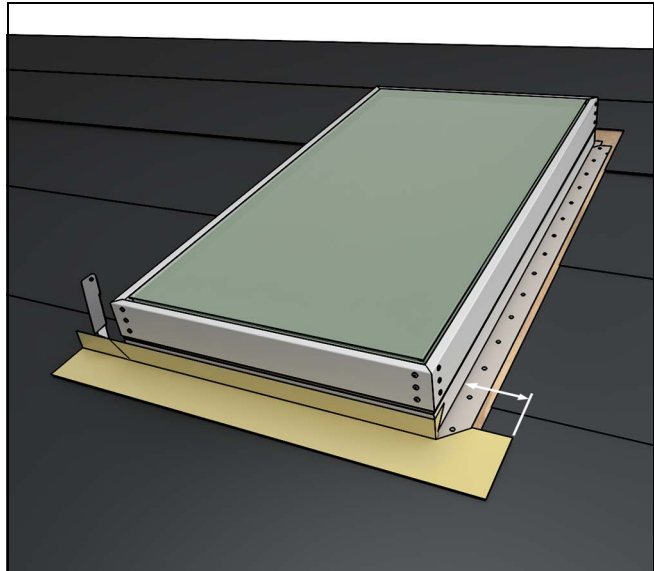

Figure 11
9. To ensure waterproofing, unit frames should be completely wrapped in supplied adhesive flexible flashing. This adhesive flexible flashing must be applied before installing the rigid flashing. *Note: Flexible flashing cannot interfere with kerf.* See Figure 11.